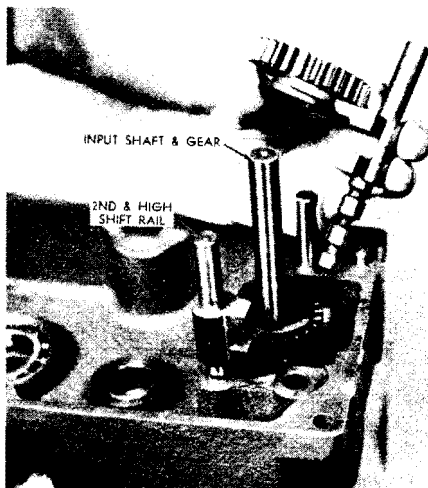

FIGURE 12
17. The cluster gear may be disassembled, as shown in Figure 12. Disassemble and assemble carefully to avoid damage to the woodruff keys and bushings. The cluster gear bushings may be removed and installed using suitable arbors.
- 3A. Place the shift fork in neutral and remove the low and reverse shift rail and fork assembly (the one nearest the end of the case) together with the low and reverse sliding gear making sure to catch the stop ball as the shift rail is removed. See Figure 12.